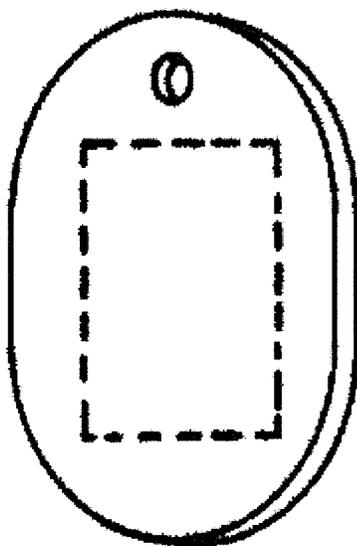

Figure 5-19. Plate, Marking, Blank, Tool
s. Plate, Marking, Blank, Tool (Figure 5-19) will be mounted using 1 inch tape fastener hook and pile secured with industrial adhesive, PN 847 (04963) (NSN 8040-01-033-7507) or equivalent.